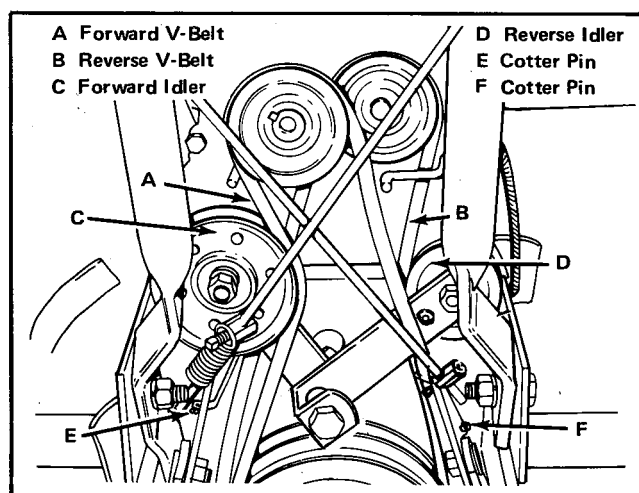

Figure 13. Belt Replacement
2. Remove forward v-belt (item A, figure 13) from engine pulley first and then off machine. If the reverse v-belt (item B) is also to be replaced, proceed to step 3. If not, install new forward v-belt in the reverse order of its removal, and check belt stop and clutch adjustments according to Adjustment Section instructions.
3. With forward v-belt already removed, lift reverse idler pulley (item D, figure 13) by hand and remove cotter pin (item F) to disconnect the link rod from the bellcrank.